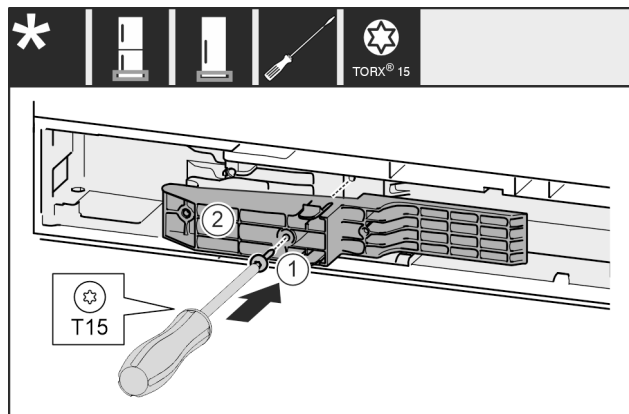

*Fig. 51 **
- ▶ Insert adapter *Fig. 51 (1)* in the recess on the handle side.*
- ▶ Tighten screw *Fig. 51 (2)* with screwdriver.*